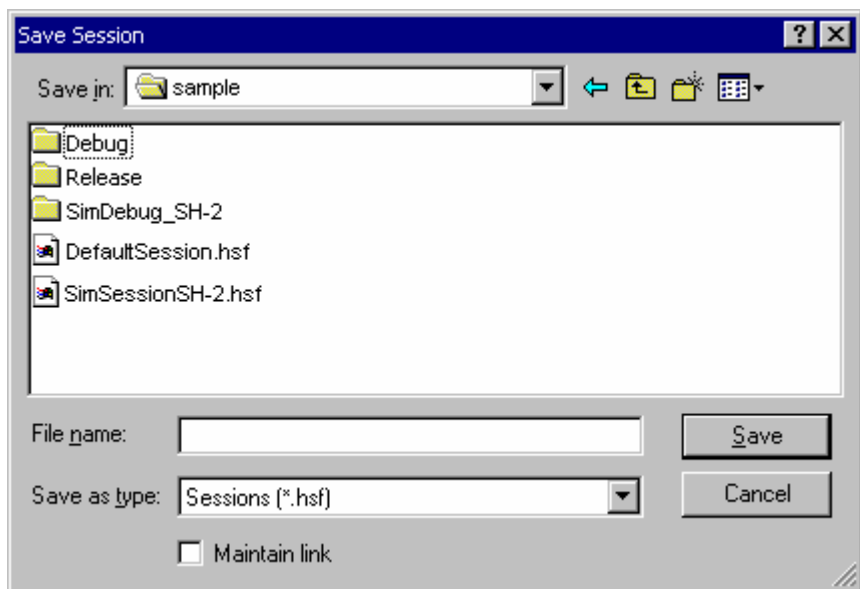

Figure 4.37 [Save Session] Dialog Box
3. Click the [Save as...] button to display the [Save Session] dialog box (figure 4.37).